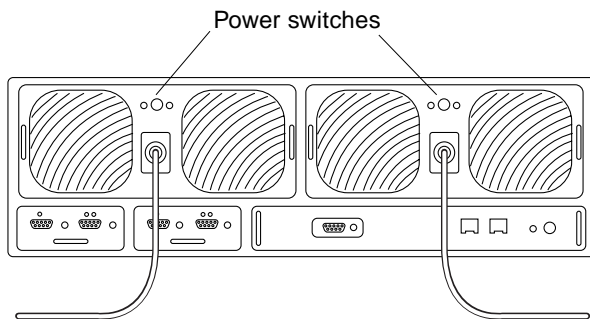

FIGURE 5-2 Power Switch Locations
4. Press the power switch on the power and cooling units on both disk trays to remove AC power (FIGURE 5-2).